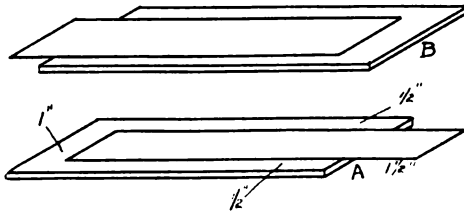

Fig. 62.—Condenser construction
on one shorter side of one inch, as shown in Fig. 62 (A).
Then another sheet of glass is coated with shellac and placed above the first, and a second sheet of foil is placed on this as shown in (B), Fig. 62, projecting from the glass at the opposite end. The third